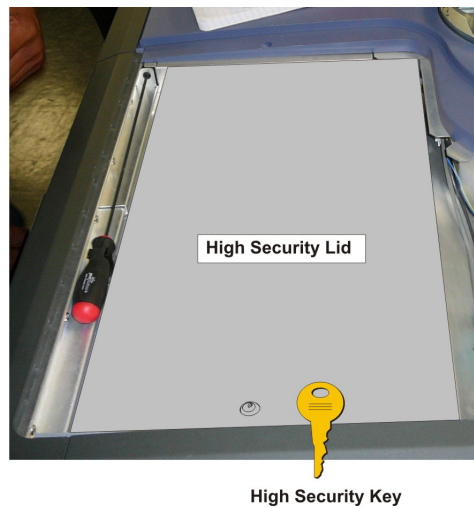

Figure 2 Remove High Security Lid
3. Use the high security key to unlock the high security lid (Figure 2).